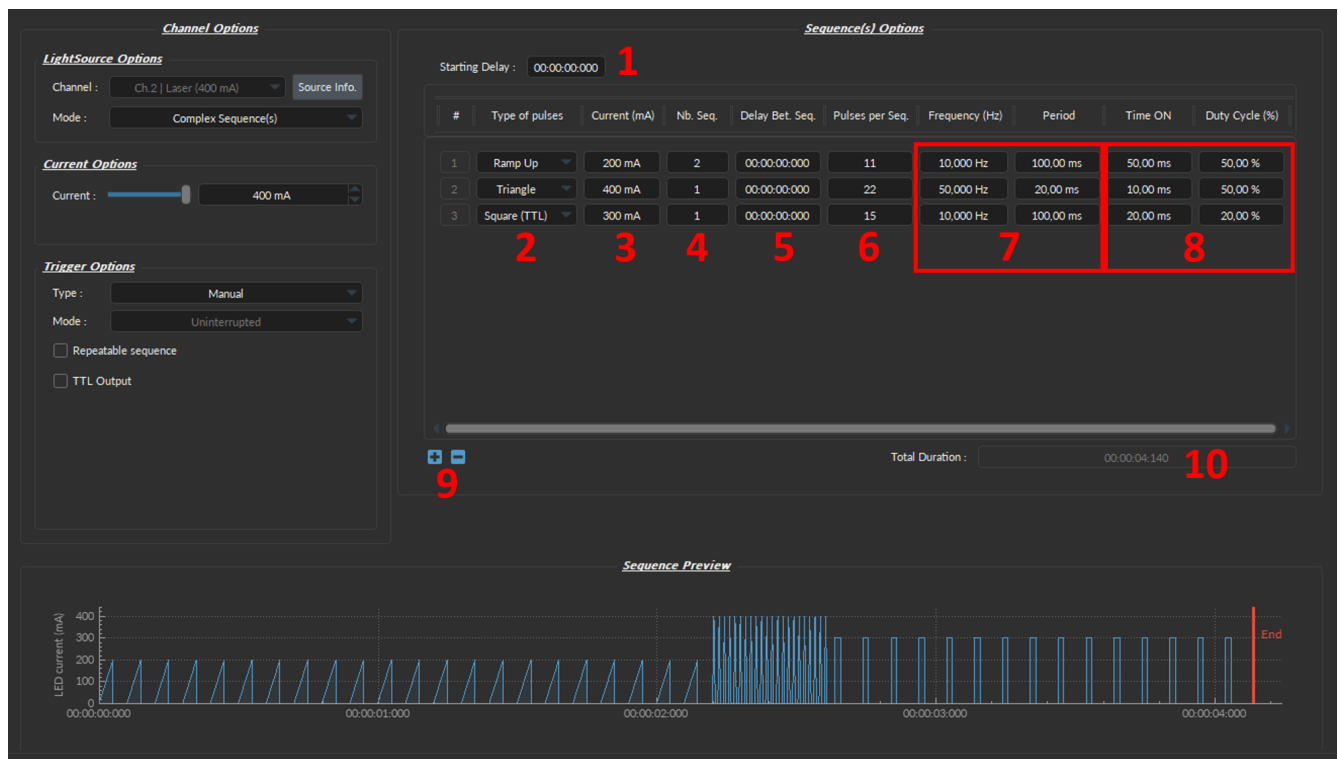

Figure 4.18: Complex Sequences Window
1. The **Starting Delay** (Fig. 4.18) sets the delay (in hh:mm:ss:zzz format) before the first pulse sequence.
2. The **Types of pulses** (Fig. 4.18) sets the pulse type. Pulses can be **Square**, triangular (**Triangle**), **Ramp up Ramp down** or **Delay**. The **Delay** pulse type is used to create a delay between different sequences.
3. The **Max Current** (Fig. 4.18) sets the maximum current (in mA) for the given sequence.
4. The **Number of sequences** (Fig. 4.18) sets the number of times that the sequence will be repeated, with a minimum of 1.
5. The **Delay between sequences** (Fig. 4.18) sets the delay (in hh:mm:ss:zzz format) between each sequence if the **Number of Sequences** is greater than 1.
6. The **Pulses per sequence** (Fig. 4.18) sets the number of pulses per sequence, with a minimum of 1.
7. The **Frequency/Period** (Fig. 4.18) sets the frequency (in Hz) or period (in ms) for the pulse sequence. These two values are linked, and when one is changed the other will adjust automatically. For example, a signal at 10 Hz (frequency) will output one pulse every 100 ms (period), whereas a pulse sequence at 0.5 Hz (frequency) will output one pulse every 2000 ms (period).
8. The **Time ON/Duty Cycle** (Fig. 4.18) sets the time (in ms) or the duty cycle (in %) for each pulse. These two values are linked, and when one is changed the other will adjust automatically. The **Time ON** must be lower than $(1/\text{frequency}) + 0.005$ ms, while the **Duty cycle** must be below 100 %.
9. The **Sequence controls** (Fig. 4.18) allow the addition (+) or removal (-) of sequences to the spreadsheet.
10. The **Total Duration** (Fig. 4.18) displays the total time of the experiment. The different values can be *Inf* for infinite, a valid time value or *Err* if the **Time ON** value is greater than $1/\text{frequency}$.